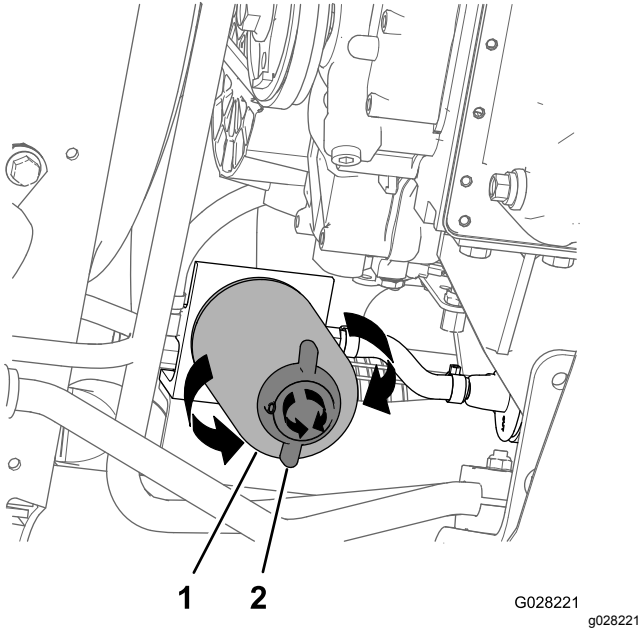

Figure 75
4. Align a drain pan under the fuel filter; refer to Figure 75 in Replacing the Water-Separator Filter \(page 60\).
2. Place a drain pan under the water-separator filter (Figure 75).
3. Rotate the drain valve at the bottom of the water-separator filter counterclockwise (Figure 75).
4. Clean the area around the water-separator filter and filter-adapter mount (Figure 75).
5. Remove the water-separator filter (Figure 75).
9. Ensure that the drain valve at the bottom of the water-separator filter is rotated clockwise tightly (Figure 75).